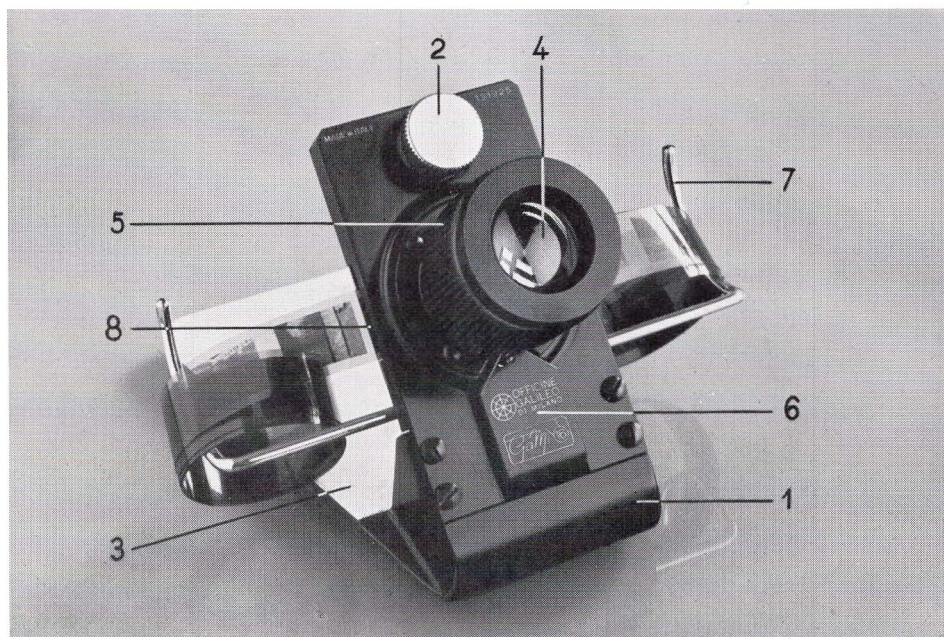

fig. 1
For this use the viewer is assembled as shown in fig. 1.
The viewer is set on a table oriented so that the light from a window or a lamp should hit the white surface of the base (3 - fig. 1). The white surface acts as a diffuser permitting a clear, glareless and shadowless observation through lens (4 - fig. 1).
Plate (6 - fig. 1) operates a small punching head which can punch small moon shaped holes on the edge of the film. To operate the punch it is only necessary to exert a positive pressure on plate (6). This is done every time one sees through the eyepiece a picture worth printing, enlarging or slide mounting. The advantage of the punching method of tagging the pictures is that the small punched hole can be found also in the dark by touch and is easily projected on the image plane by the GaMi enlarger, so that in any case the selected frames can be easily recognized.
The metal rod (7 - fig. 1) keeps the roller film in place before and after its passage through track (8) of the viewer.